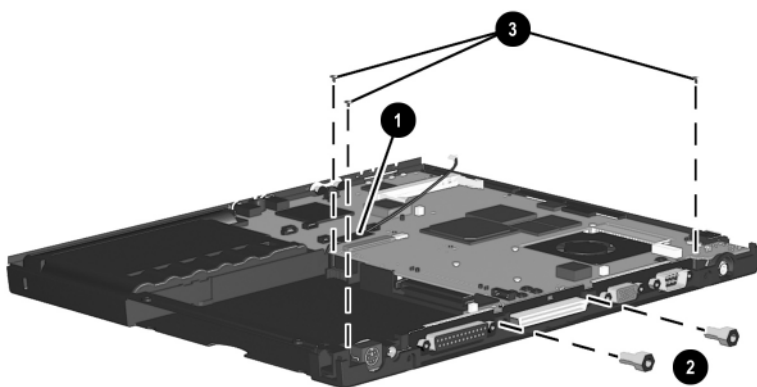

Figure 5-23. Removing the System Board Screws and Bushing Guides on an Evo Notebook N600c
3. Remove the tape that secures the modem cable to the system board ❶ (Figure 5-23).
4. Remove the two 7.0-mm bushing guides ❷ on either side of the docking connector that secure the system board to the base enclosure.
5. Remove the three TM2.5 × 5.0 screws ❸ that secure the system board to the base enclosure.